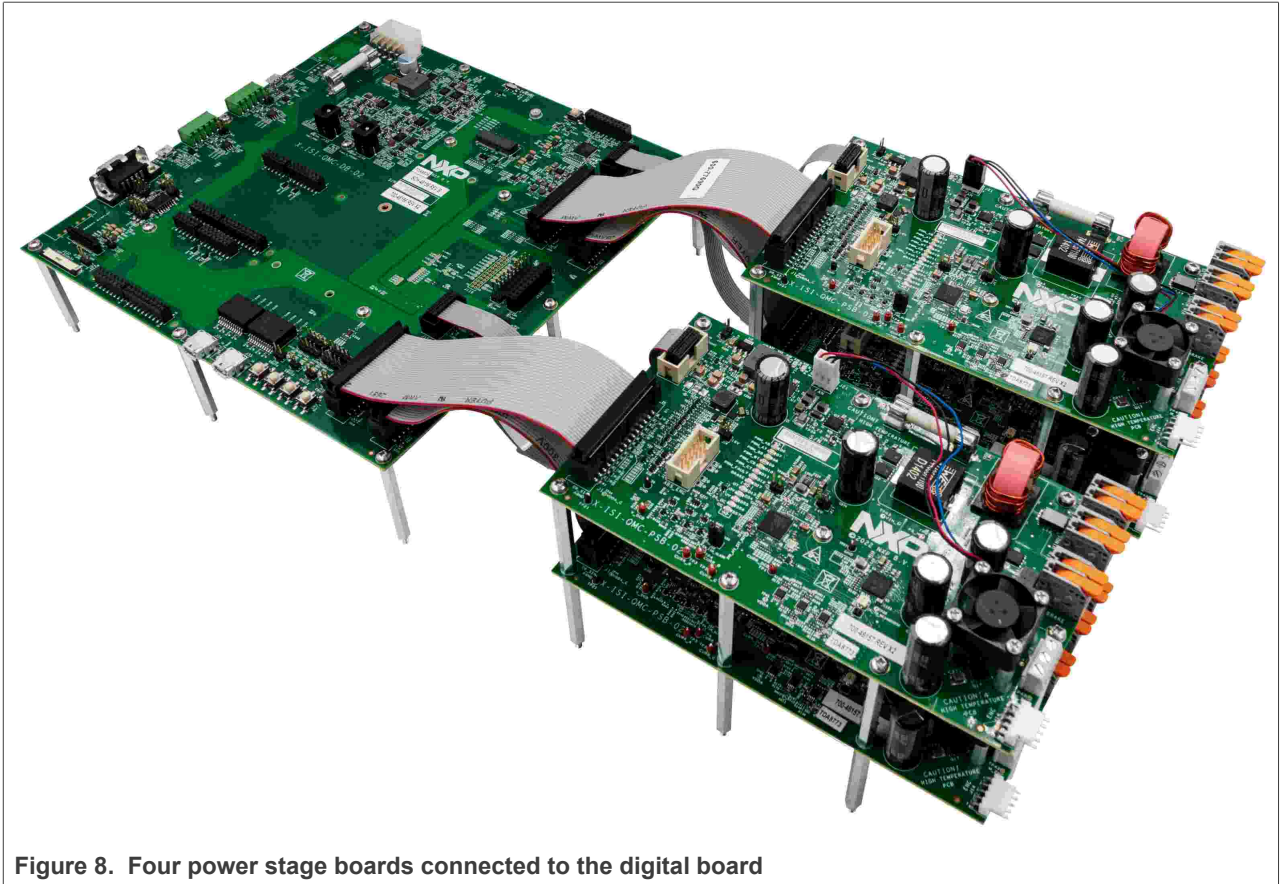

Figure 8. Four power stage boards connected to the digital board
- Repeat the above step for all the power stage boards that you want to connect to your system. You can stack two power stage boards on top of one another using the standoffs and screws included in the i.MX RT Industrial Drive Development Platform hardware package. If you connect all power stage boards, the result must be similar to Figure 8: